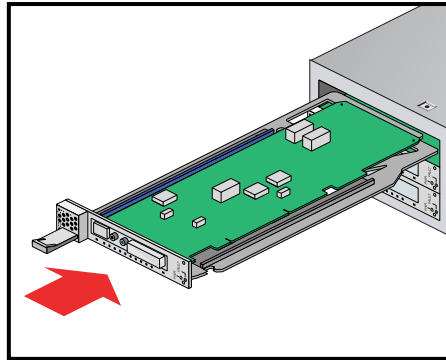

Figure 6-24 Installing a Card in a Slot
7. Insert the carrier-mounted PCI card into the vacant slot, using the slot guide, as shown in Figure 6-24.